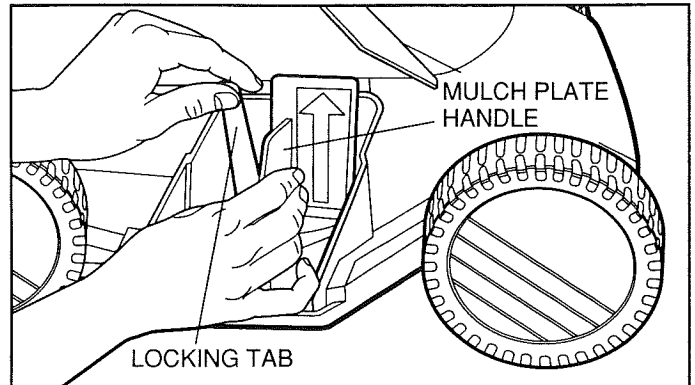

FIGURE 12
3. Grasp the Mulch Plate handle, as shown in Figure 12 and pull the locking tab out just enough to clear the lip on the mower deck (about 1/2").